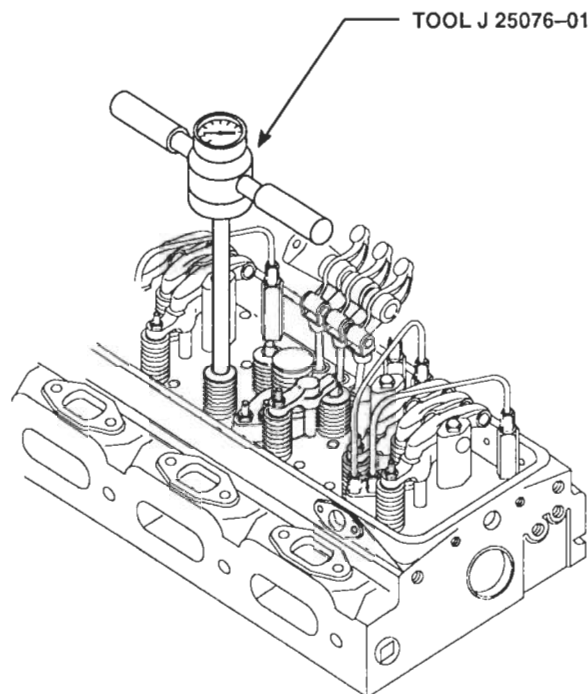

Figure 17. Checking Exhaust Valve Opening Pressure
11. With the exhaust valves installed in the cylinder head, use spring checking gage J 25076-01 and note the gage reading the moment the exhaust valve starts to open (Figure 17.) The minimum allowable pressure required to start to open the exhaust valve must not be less than 15 lbs for a two-valve cylinder head or 20 lbs for a four-valve cylinder head (two-spring design).